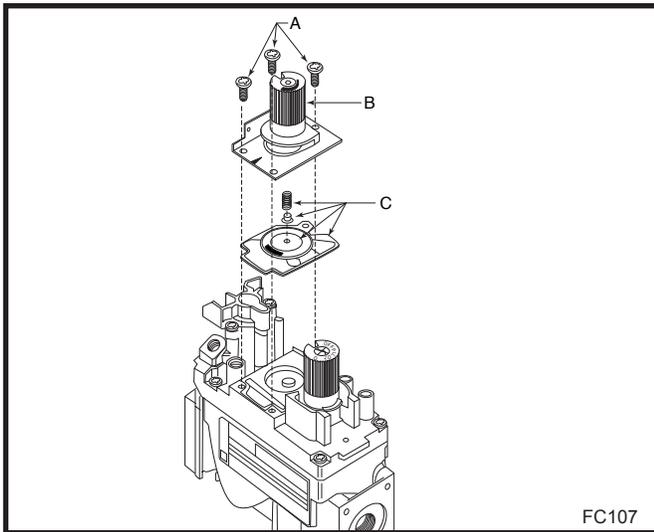

Fig. 30 Remove mounting screws, pressure regulator tower and spring and diaphragm assembly.
1. Using TORX T20 bit, remove and discard the three (3) pressure regulator mounting screws (A), pressure regulator tower (B) and the spring and diaphragm assembly (C). (Fig. 30)